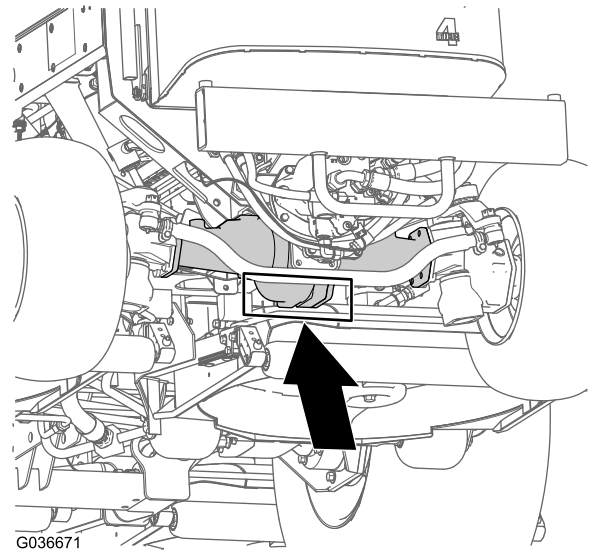

Figure 78
**Rear of the machine**—at the center of the axle (Figure 78)